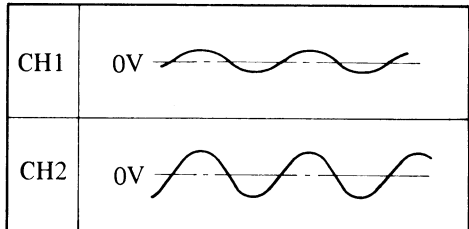

Fig. 2
In order to expand the synchronization range, AC coupling is applied to the CH2 side. When either the CH1 or CH2 input signal is smaller as shown in Fig.2, adjust the VOLTS/DIV switches (13) and (14) to obtain sufficient amplitudes.